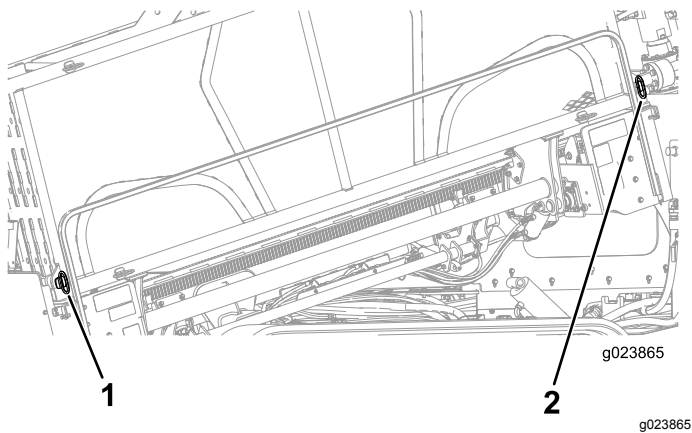

Figure 68
2. Remove the lower, outer pins on the pipe holder (Figure 68).